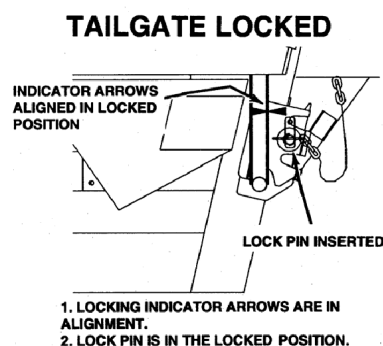

Figure 7. Tailgate Locked
1. RED indicator arrows are aligned on the locking arm and body anchor, see figure 7 below.
2. Locking pin is installed in hole as shown in figure 7 below.
1. To lower the raised tailgate, PUSH and hold the rear red handle on the underbody valve. From the fully raised position, it will take approximately 28 seconds to lower the tailgate to position shown in figure 7.